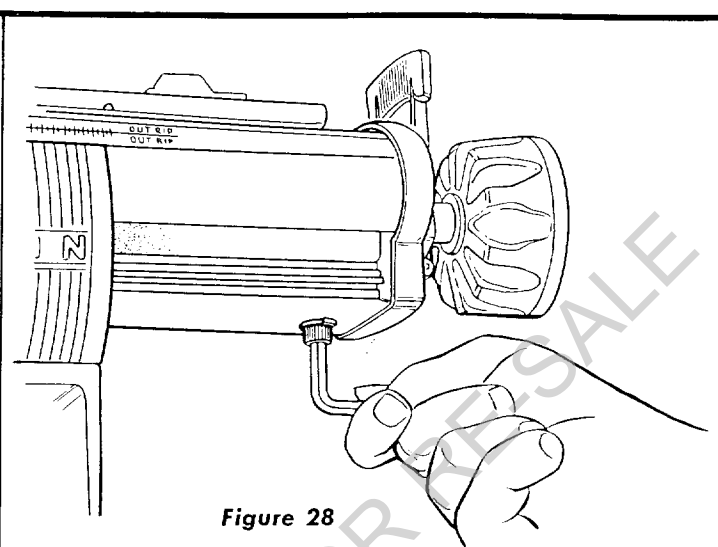

Figure 28
3. Remove the carriage stop screw and lockwasher from the underside of radial arm near the front end of the arm. (See figure 28.)
10. Install carriage stop screw and lockwasher in radial arm. (See figure 28.)